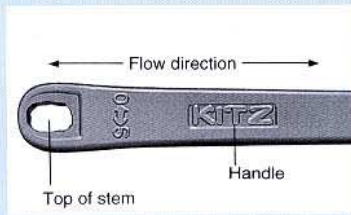

Fig. 1
1. **Double "D" stem head design** provides mounting of the lever handle always in parallel to the flow passage. Misalignment of the handle is thus prevented. (Fig. 1)